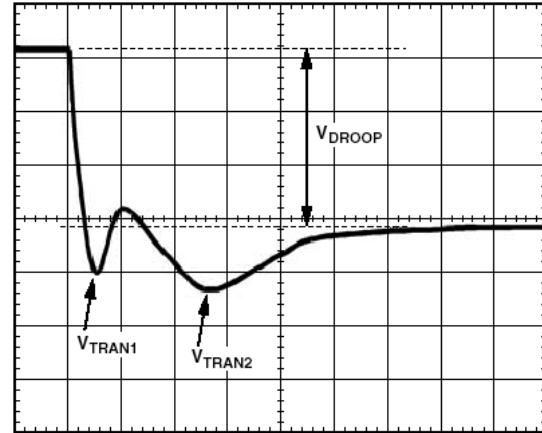
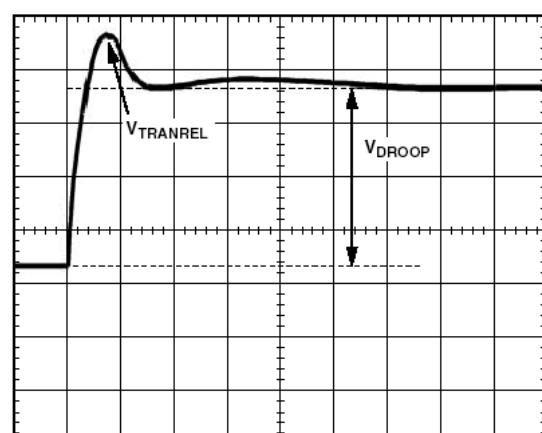

Figure 9. Transient Setting Waveform
Figure 10. Transient Setting Waveform
19. With dynamic load still set at maximum step size, expand scope time scale to see  $2\mu\text{s}/\text{div}$  to  $5\mu\text{s}/\text{div}$ . You will see a waveform that may have two overshoots and one minor undershoot (see Figure 9). Here, VDROOP is the final desired value.
21. For load release (see Figure 10), if VTRANREL is larger than VTRAN1 (see Figure 9), you do not have enough output capacitance. You will either need more capacitance or to make the inductor values smaller (if you change inductors, you need to start the design over using the spreadsheet and this tuning procedure).